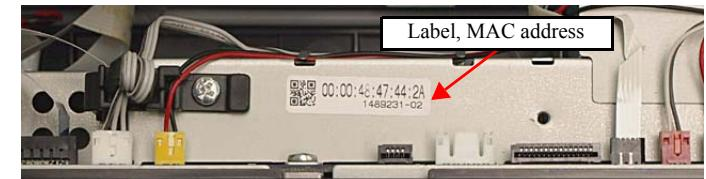

Figure 4-48. Position for the MAC Address Label
- When replacing the Main Board, the MAC address need to be set if the EEPROM data could not be read from the old Main Board. In this case, attach the new "Label, MAC address (Parts number: 1489231)" to the position shown in Fig. 4-48 and execute "5.2.6 'MAC Address Setting' (p223)".